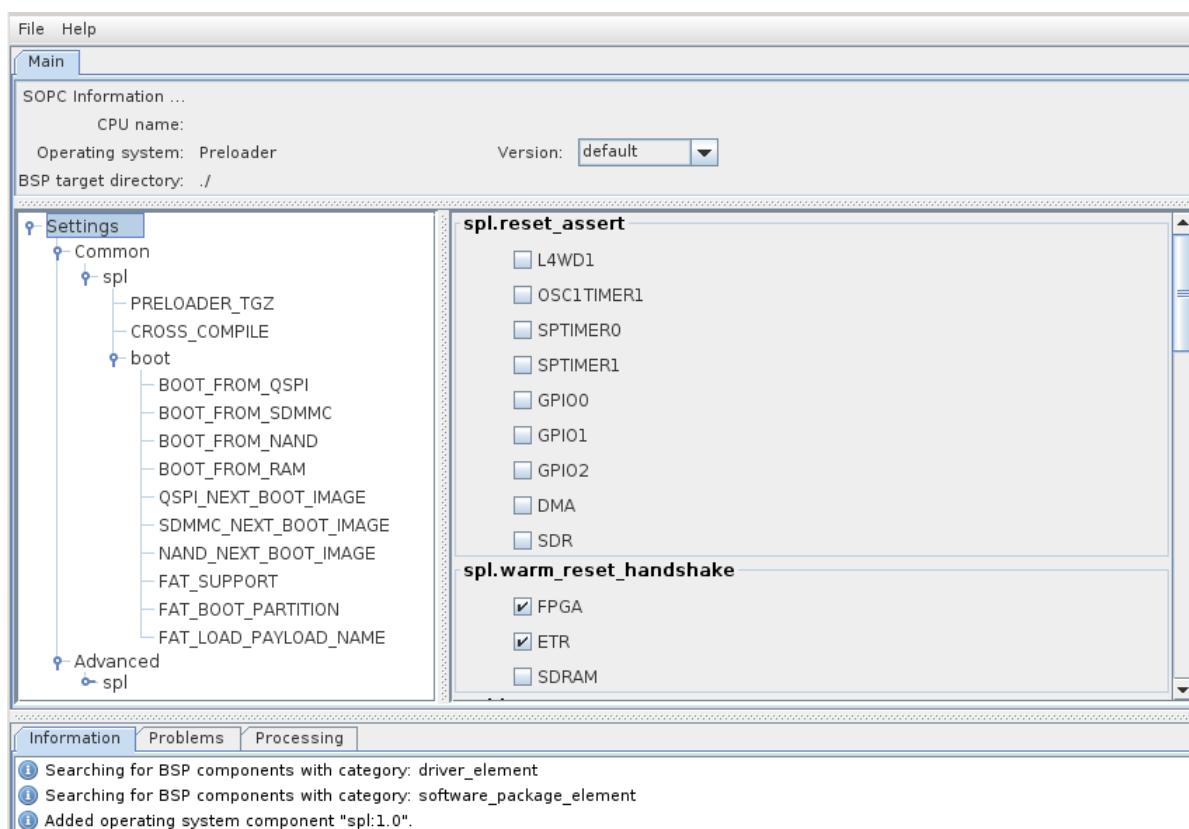

Figure 8-23. Preloader Settings Dialog
- c. Press the “OK” button. You should then arrive on a page with many settings, as shown on Figure 8-23. Take some time to read through them to see what the preloader has the ability to do.
11. On the main settings page of Figure 8-23, we will only need to modify 2 parameters for our design.